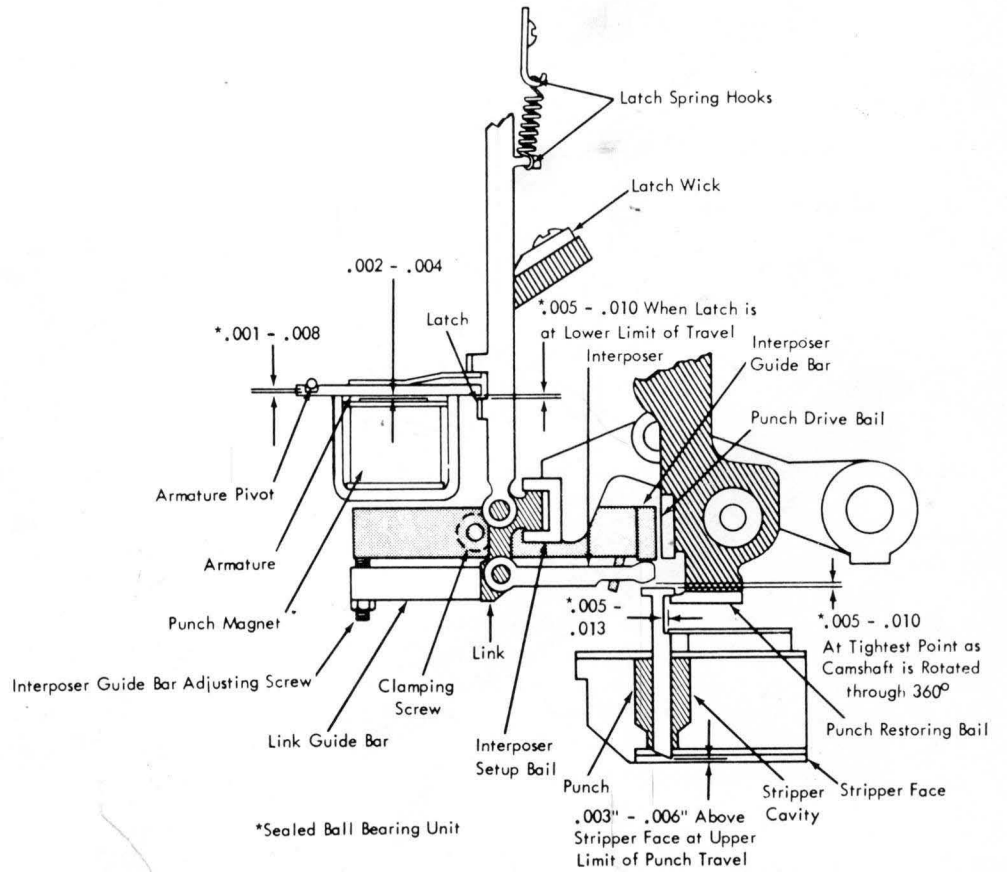

Figure 4-28. Ball Bearing Type Punch Unit
- c. With the interposer bail at the lower limit (23° , 143° , 263°) check that the clearance between the interposers and the punches does not exceed .015". (For the sealed ball bearing unit, rotate the cam shaft through 360° and check for .005" to .010" clearance between the interposers and the punches) See Figure 4-28. This ensures that the upper corner of the interposer does not strike the punch bail on entry between punch and punch bail.